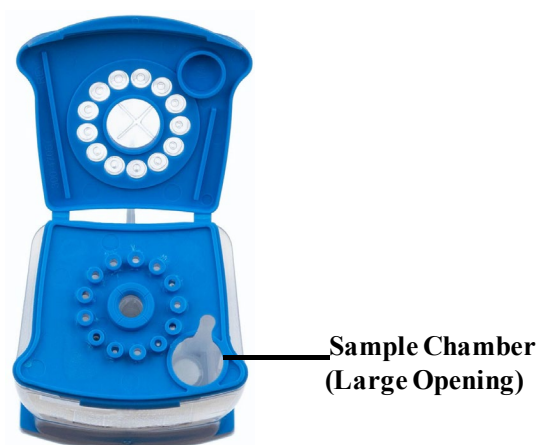

Figure 22. Xpert Xpress CoV-2 *plus* Cartridge (Top View)
15. To transfer the sample to the cartridge, squeeze the top bulb of the pipette completely again until it is fully flat to empty the contents of the pipette (300 µL) into the large opening (Sample Chamber) of the cartridge shown in Figure 22. Some liquid may remain in the overflow reservoir. Dispose of the used pipette.